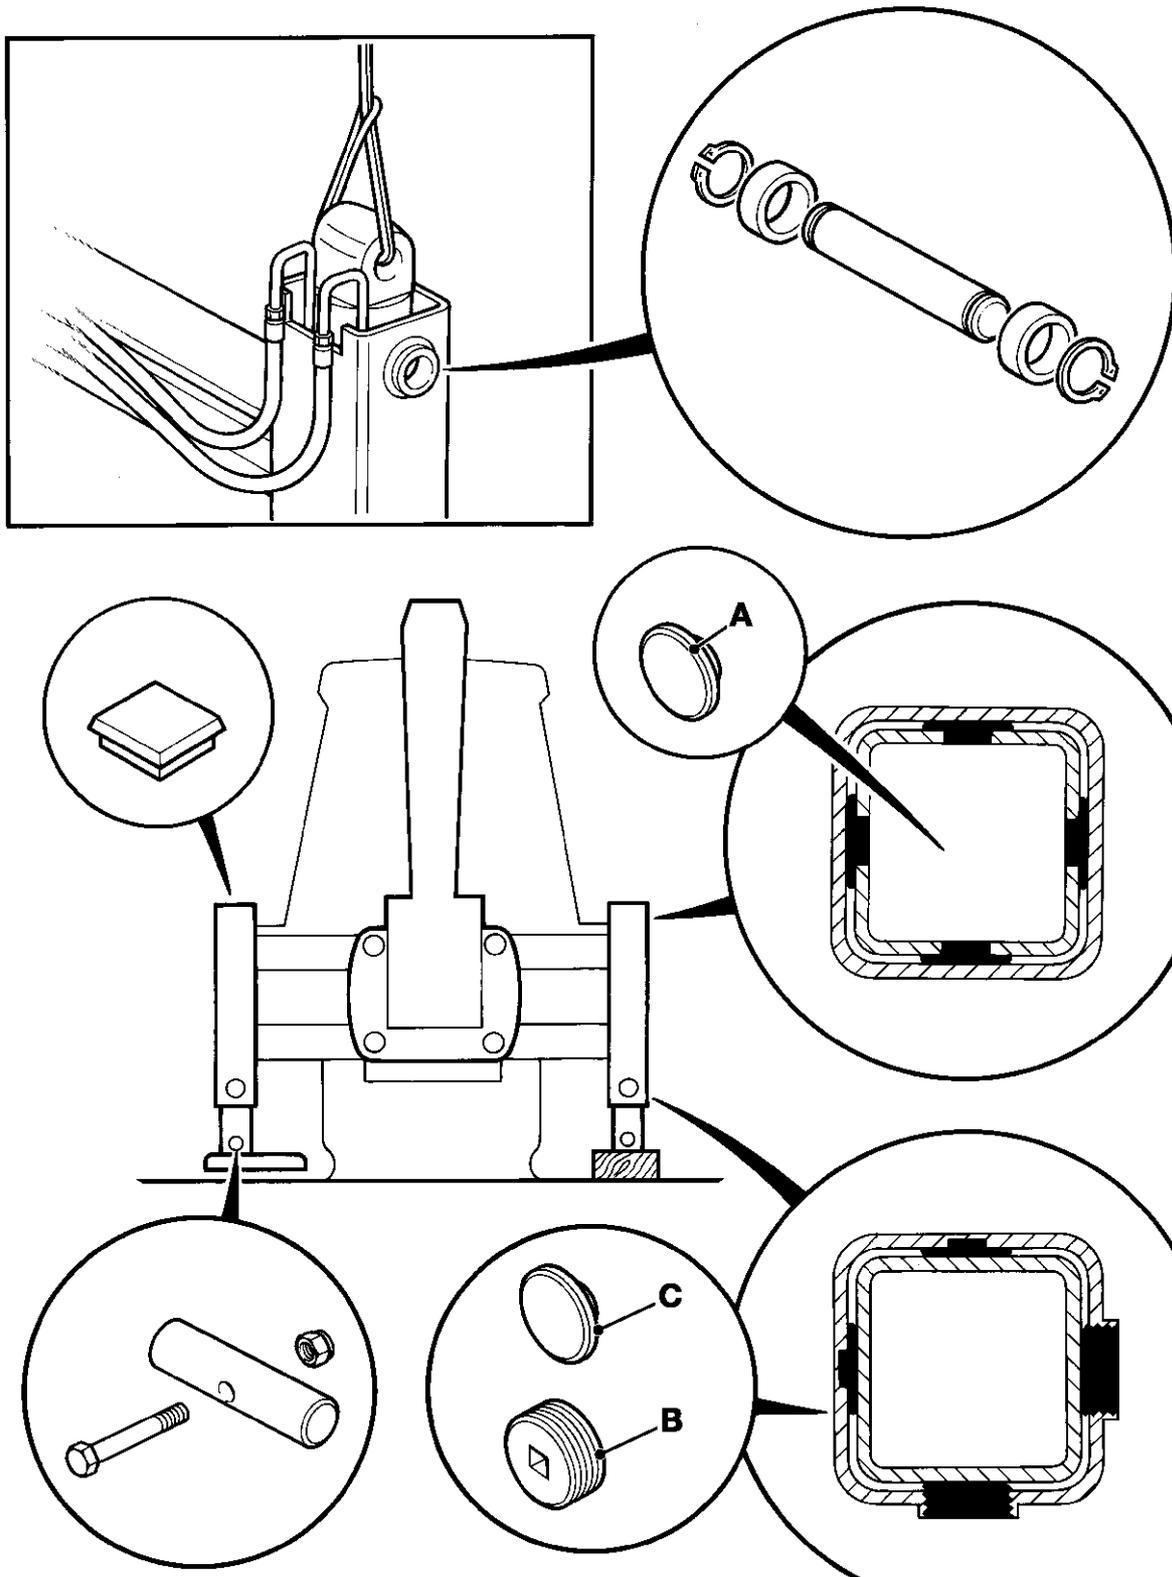

Fig 16. Sideshift
- 5 → Fig 16. \(□ B-101\). Remove the inner leg: